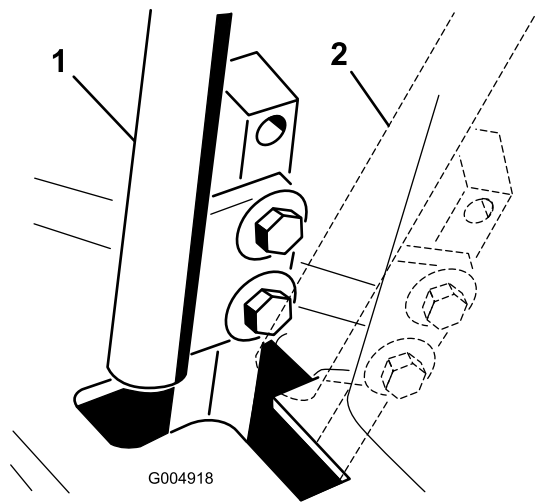

Figure 52
4. Move the control lever to the NEUTRAL position but **not locked** (Figure 52).
6. Check where the control lever is relative to notch in the console (Figure 52).